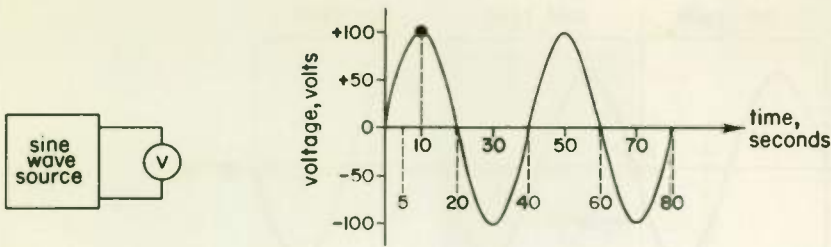
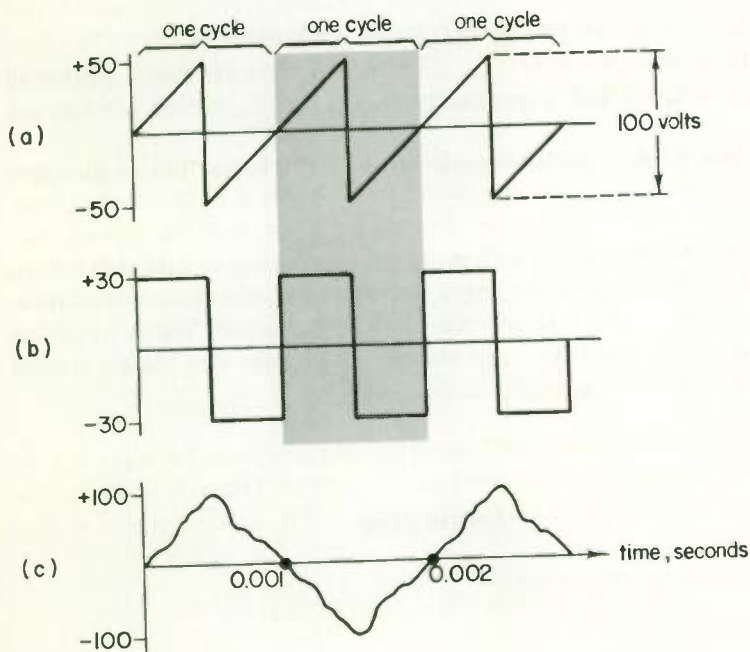

Fig. 4 A sinusoidal voltage wave.
Fig. 6 A-c waves which are not sine waves.
Figure 4 shows an example of what a voltmeter would measure if it were connected to a sine-wave source with an extremely low frequency. At $t = 0$ the value of the voltage is zero. At $t = 5$, that is, 5 sec later, the voltage is rising to a value of 100 volts, which it reaches at $t = 10$ sec. From this point the voltage falls to zero at $t = 20$, and then it becomes negative. It repeats its rise and fall negatively, finally
In general, a-c voltages may have graphs of many different shapes. However, any a-c voltage whose graph has the shape shown in Fig. 4 is classified as a sinusoidal wave. Examples of a-c waves which are not sine waves are shown in Fig. 6
1. A d-c voltage (a) *(does)* (*does not*) vary with time. The graph of such a voltage is a (b) _____ . An a-c voltage does not yield a straight-line graph because such a voltage (c) _____ with time. The sine wave of Fig. 4 begins with zero value at $t = 0$. You must wait (d) _____ seconds before the voltage rises to 100 volts. At $t = 30$ the value of the voltage is (e) _____ volts.
2. At $t = 10$ sec the voltage graphed in Fig. 4 reaches a peak value of 100 volts. The time which elapses between the +100-volt peaks of the wave is (a) _____ seconds. Since the sine wave repeats itself, the voltage will also be +100 volts at $t = 50$, $t = 90$, $t =$ (b) _____ , $t = 170$ sec, etc.
3. The period of the wave shown in Fig. 4 is (a) _____ seconds. Its frequency is (b) _____ cycles per second.
4 PEAK VALUE . . . Figure 6 shows examples of a-c waves that are not sine waves. Since these waves are also made up of repeating patterns, the terms "period" and "frequency" and the formulas relating them
The maximum value which any a-c wave reaches during one cycle is called the *peak value* of the wave. The sawtooth of Fig 6(a) has a peak value of 50 volts. The square wave of Fig. 6(b) rises to 30 volts and remains there for an entire half-cycle. Since 30 volts is the maximum value it reaches, this wave has a peak value of 30 volts.
The *peak-to-peak value* of a wave is the total value which the wave swings through while going from its highest to its lowest value. Since the waves we are dealing with rise as high positively as they fall negatively, the peak-to-peak value of these waves is twice the peak value. Conversely, the peak value is one-half the peak-to-peak value. The sawtooth wave of Fig. 6(a) swings from -50 volts to $+50$ volts, so it has a peak-to-peak value of 100 volts as shown.
1. The a-c wave shown in Fig. 6(c) has a peak value of (a) _____ . Its peak-to-peak value is (b) _____ volts. This wave has a period of (c) _____ seconds and a frequency of (d) _____ cycles per second.
2. The square wave of Fig. 6(b) has a peak value of 30 volts. The average value of the square wave is _____ volts.